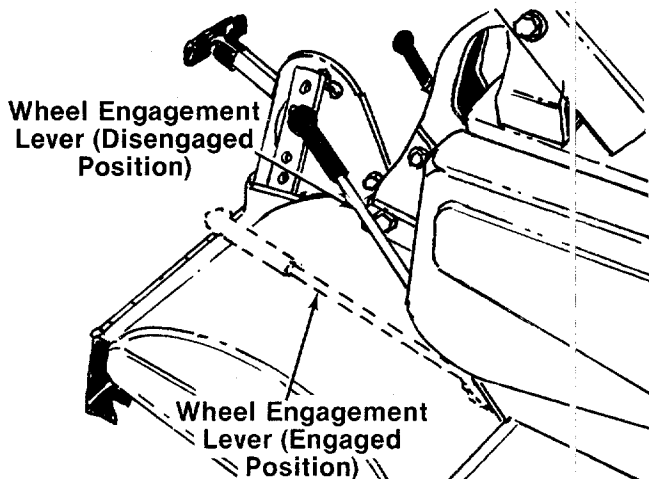

FIGURE 19.
To engage wheels, move the lever outward. To disengage or stop wheels, move lever inward. See figure 19.
3. Place the wheel engagement lever in the disengaged position. See figure 19.